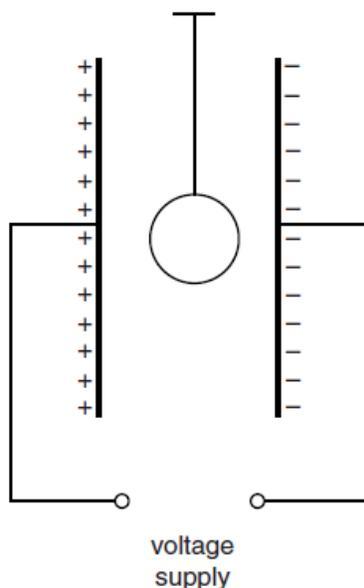

Fig. 10.2
- (b) A light, conducting ball is suspended by an insulating string. Fig. 10.2 shows the ball in the middle of the gap between the plates.
On Fig. 10.2, show the distribution of charge on the ball.